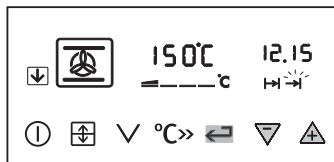

Fig.8.
- vi) To set the 'End Time'. Press the Time Selector button (↔) until the 'End Time' indicator neon (→) flashes. Press the increase control button (Δ) until the required stop time is displayed, e.g. 12.15 p.m. as Fig. 8. If necessary depress the decrease control (▽) until the correct time interval is achieved.